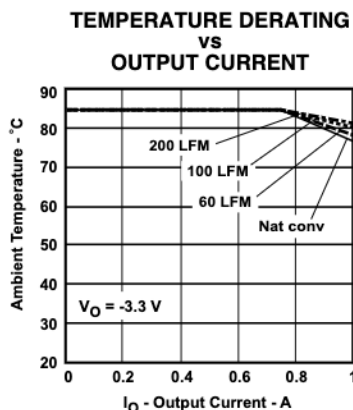
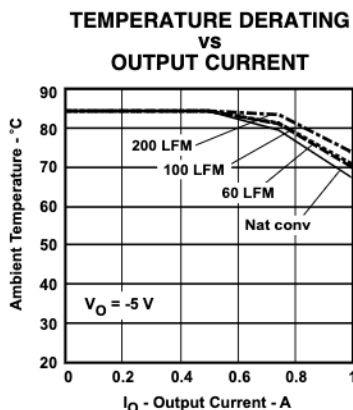
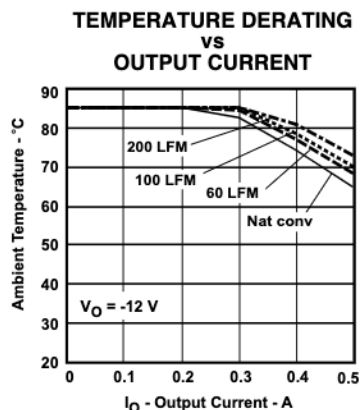
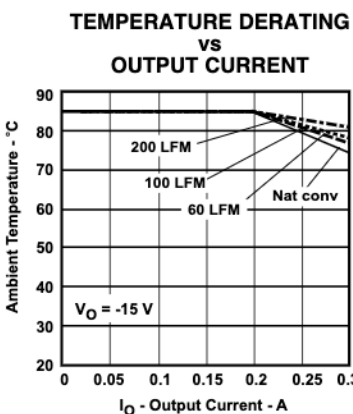

Figure 4.
Figure 5.
Figure 6.
Figure 7.
- (2) The temperature derating curves represent the conditions at which internal components are at or below the manufacturer's maximum operating temperatures. Derating limits apply to modules soldered directly to a 100 mm x 100 mm, double-sided PCB with 2 oz. copper. Applies to Figure 4, Figure 5, Figure 6, and Figure 7.